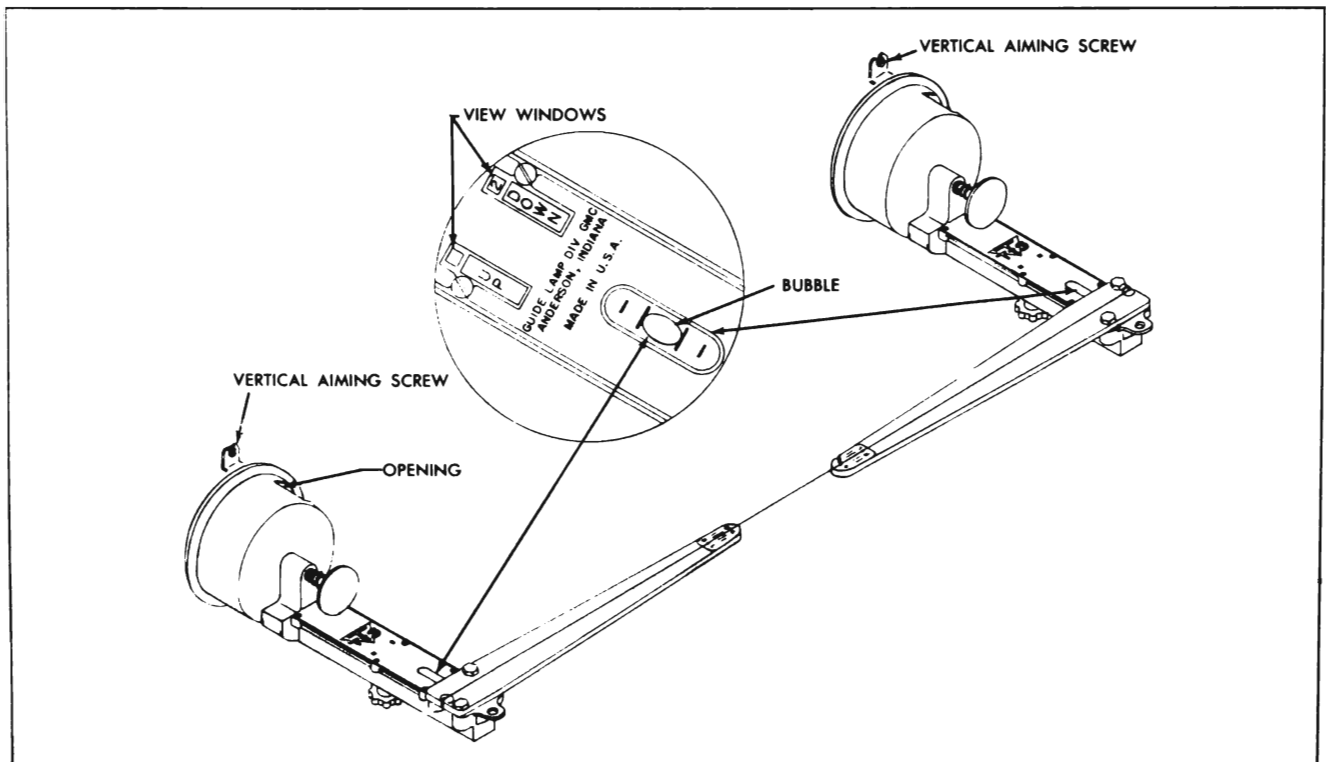

Figure 10-59—Adjusting Vertical Aim
1. The bubble should be within the two outside lines of the level on the aimer. If bubble in level does not fall within these limits it is necessary to adjust vertical aim by turning vertical aiming screw counterclockwise until the bubble in level is at the end of vial toward headlamp unit. Then turn screw clockwise until bubble is centered in the level. see Figure 10-59.